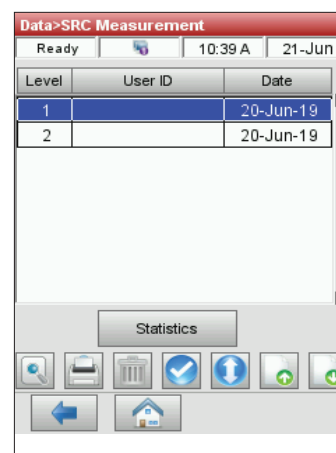

Figure 8. SRC measurement
- On the Data>SRC Measurement screen (figure 8), select the run (located on the left) that you want to review.
- Tap the applicable button on the right (figure 8):